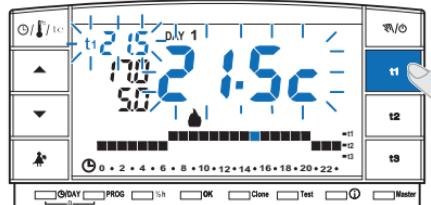

fig. 32
(i) If you select a key (t1 or t2) relative to a blocked temperature, the symbol (t1 or t2), the relative value to the side and the central digits (example in fig. 32) will blink. In this case, you cannot exceed the maximum or minimum temperature beyond the set block limit.
- Press the set temperature key to be unblocked (t1 or t2). The selected symbol (t1 or t2), the relative value to the side and the central digits will blink (example in fig. 32).